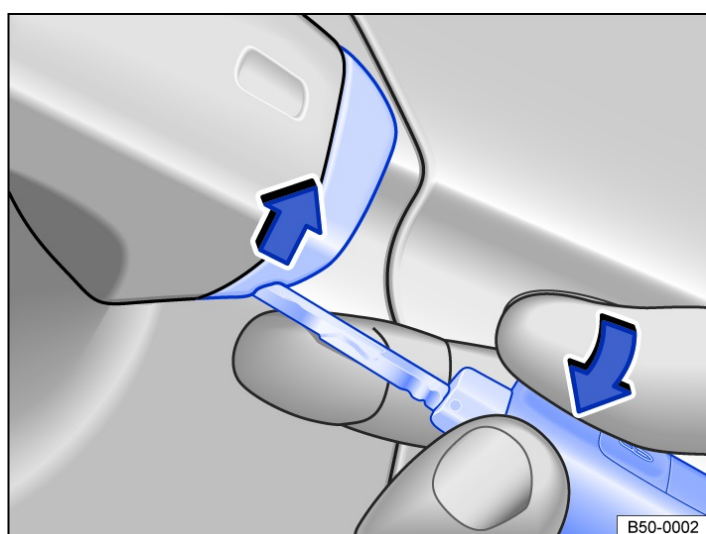

Fig. 2 Handle on the driver door: levering off the cover.
- Lift the cap off with the vehicle key in the direction of the arrow → Fig. 2